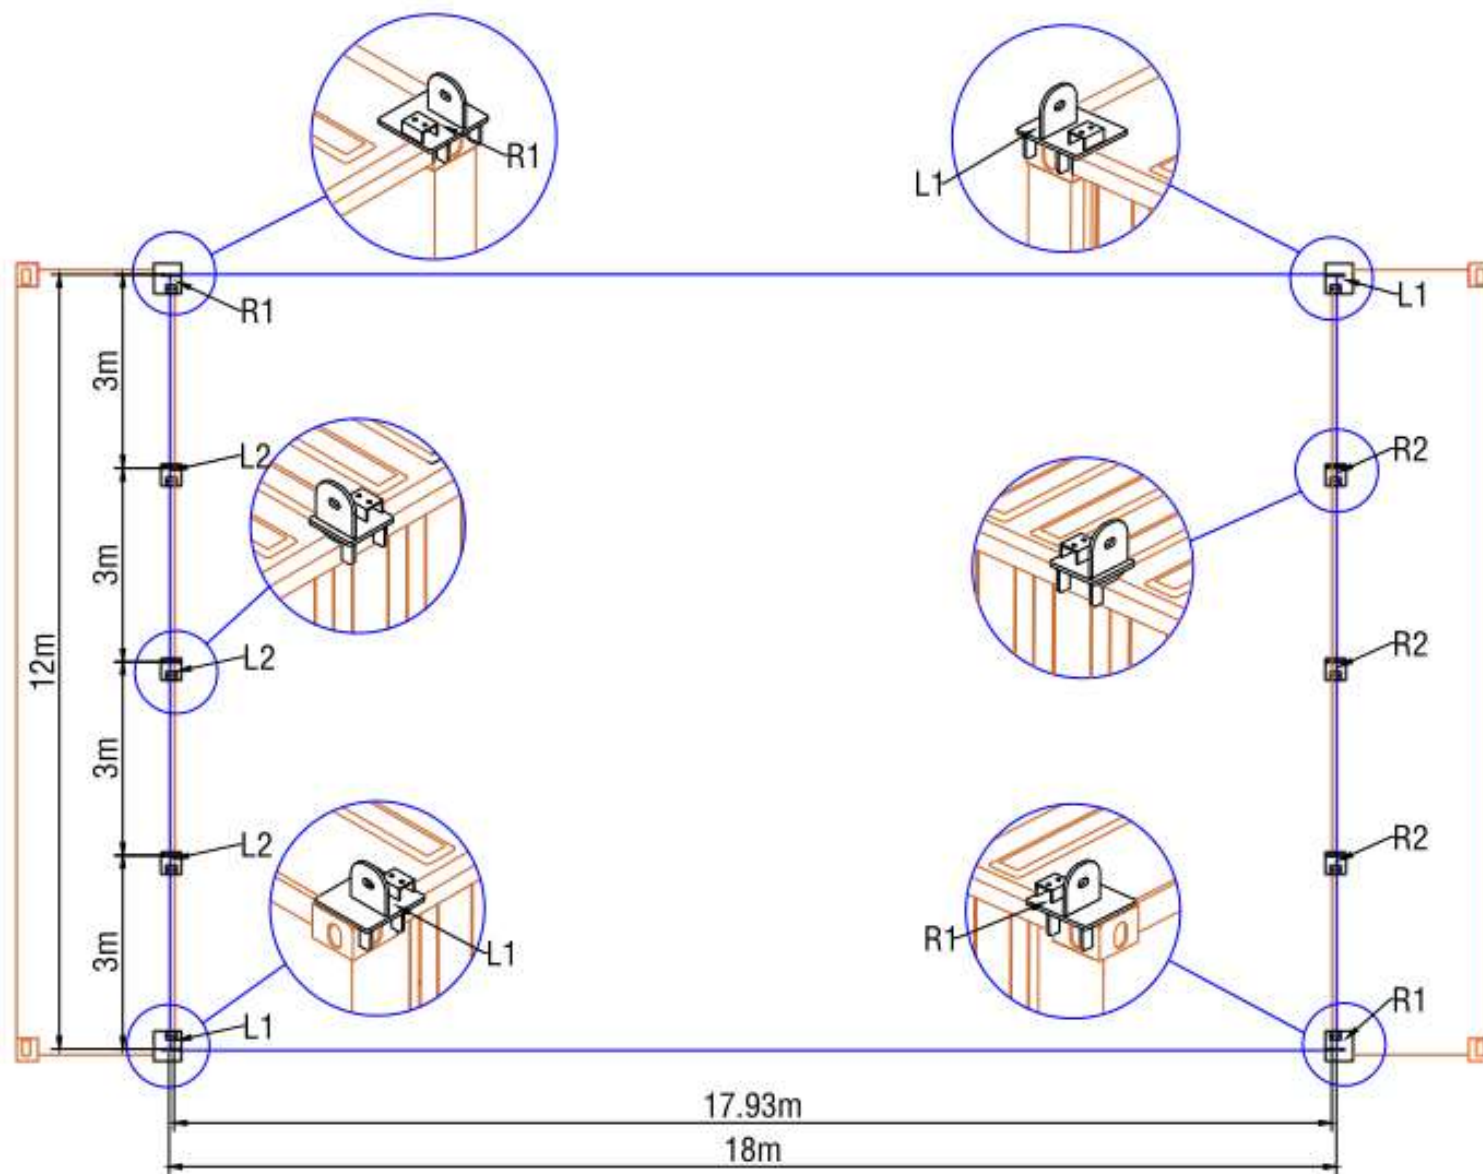

Figure 1
C. Measure diagonally from centre to centre of the tubes. These measurements should be the same as below Figure 1 shows.**Base plates (L1/R1/L2/R2) must be fully welded inside and outside.**